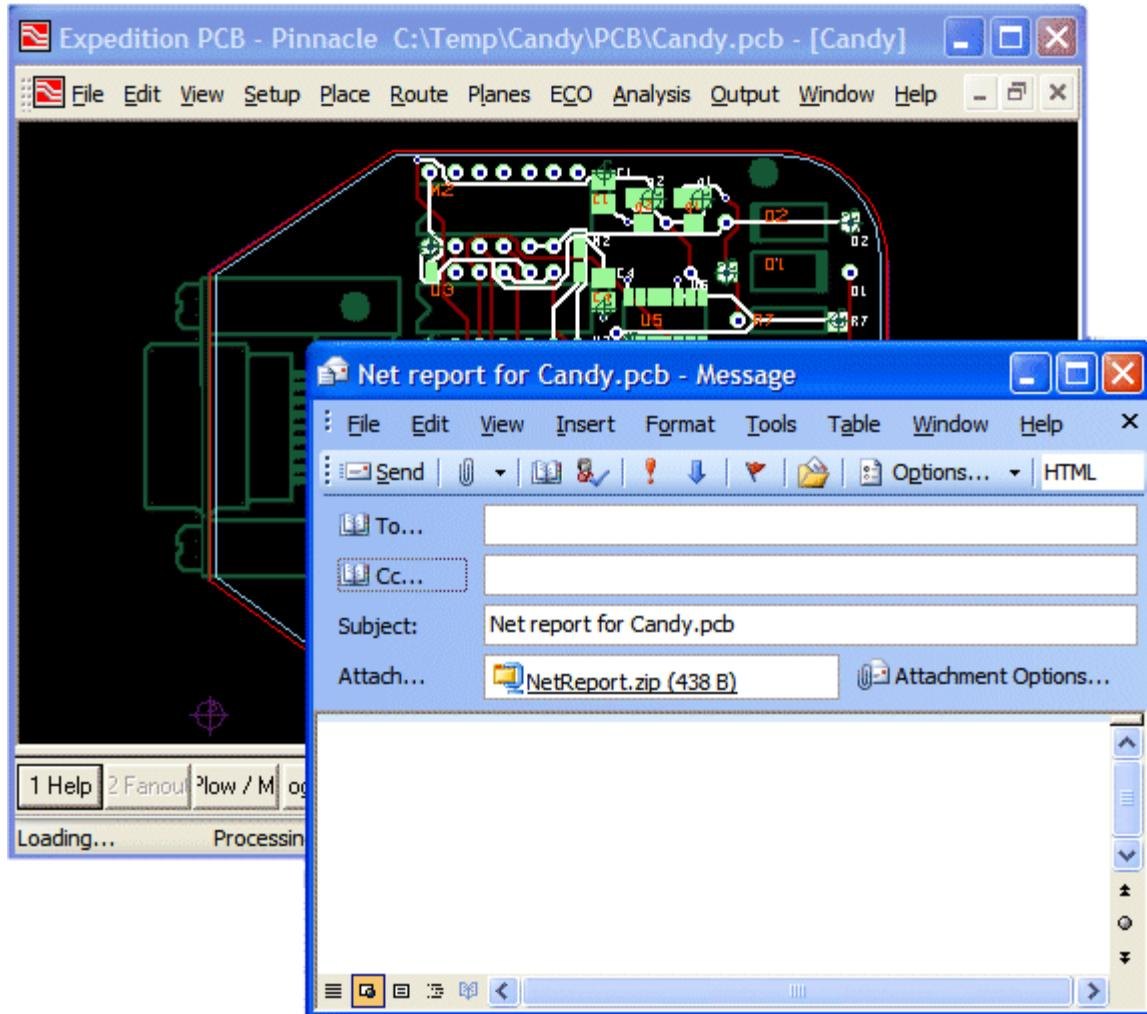

Figure 12-25. The ZipAndMailNetReport.vbs script creates an email.
- 4) Observe that as soon as the net report has been generated, this new script compresses the file and composes the email as illustrated in Figure 12-25.